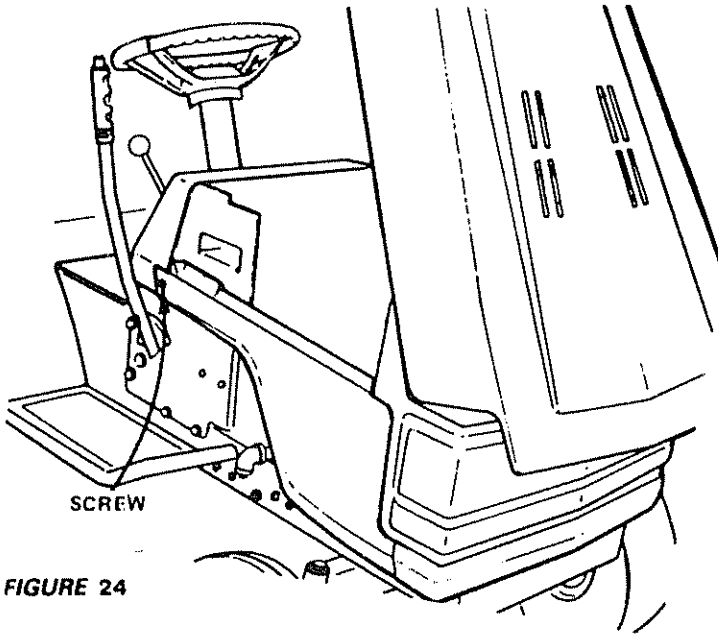

FIGURE 24
- To remove hood, grill and side panels, raise hood and loosen one screw on each side panel. (This screw remains in the side panel) (Fig. 24).